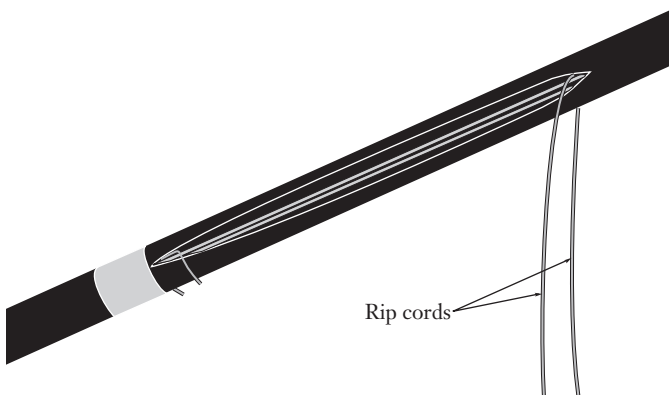

Figure 19
6.5 Locate the rip cords. Cut the rip cords near the tape mark with scissors (Figure 19).